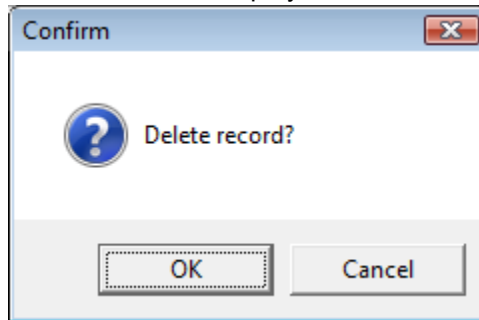

Figure 52 Delete Record.
- c. The screen in Figure 52 below will be displayed.